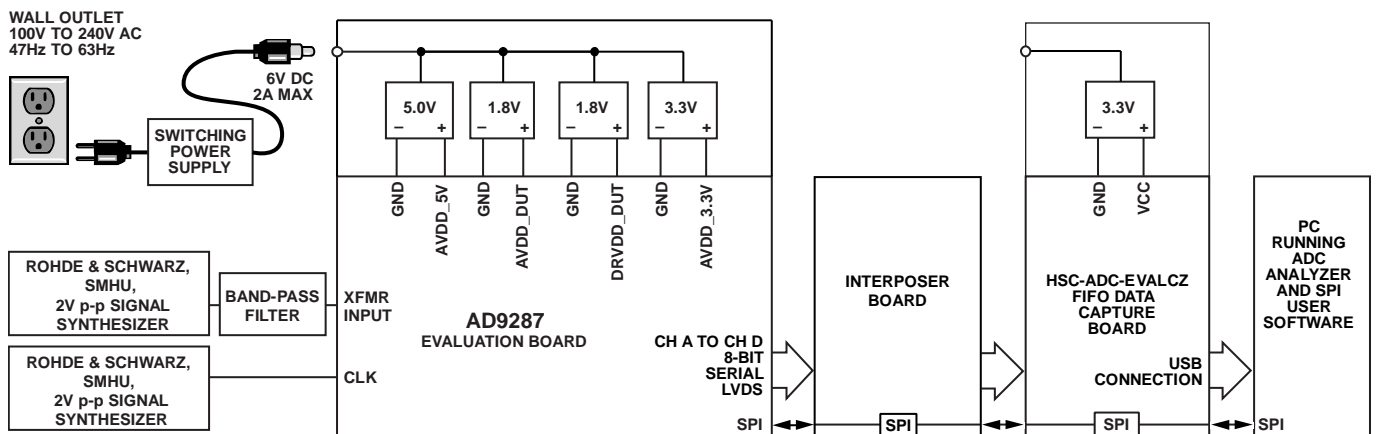
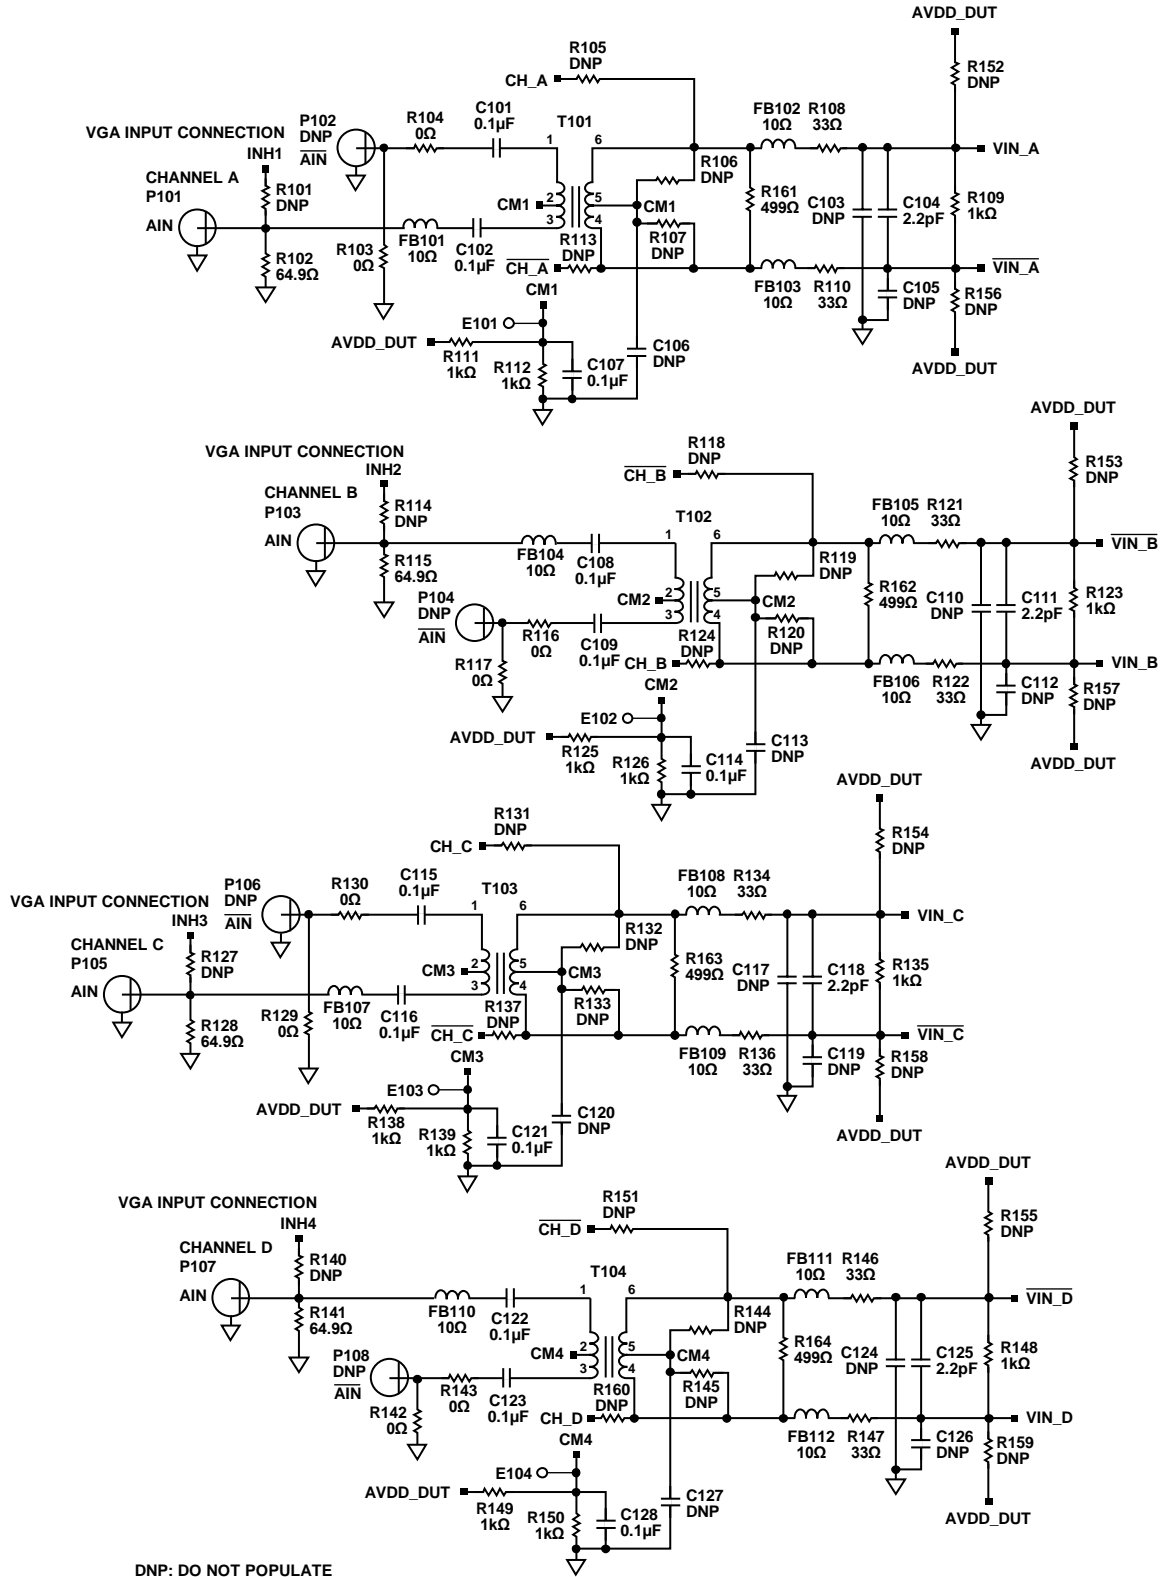
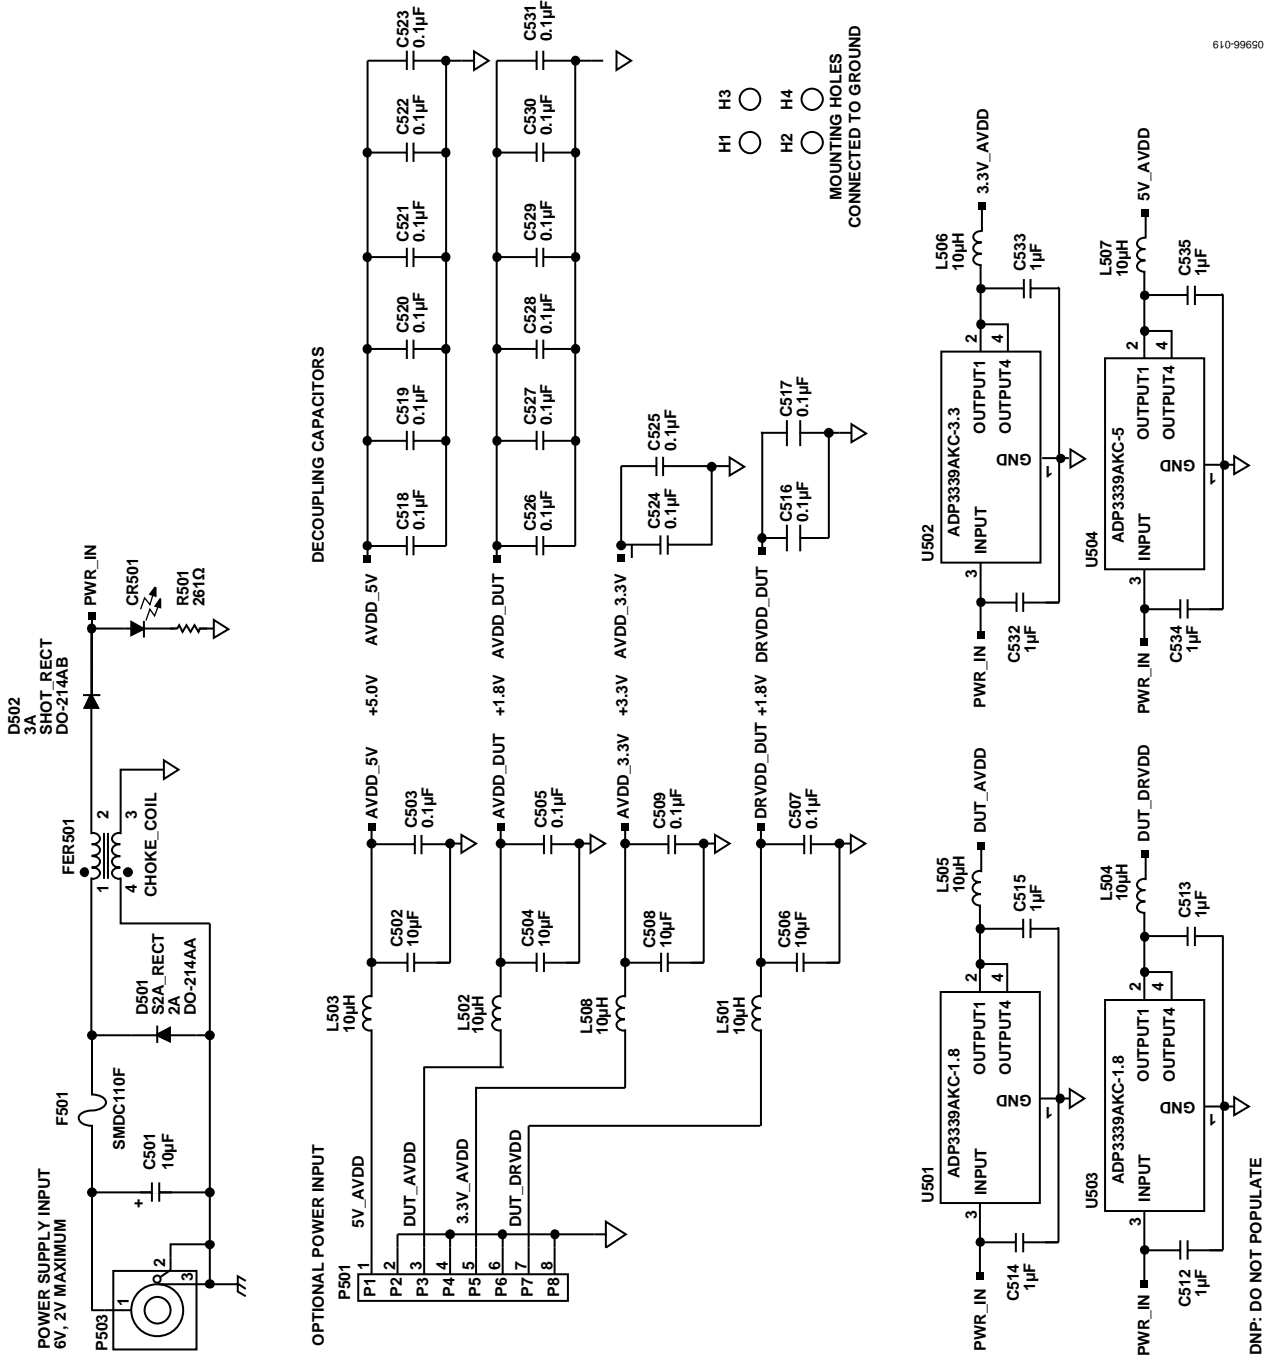
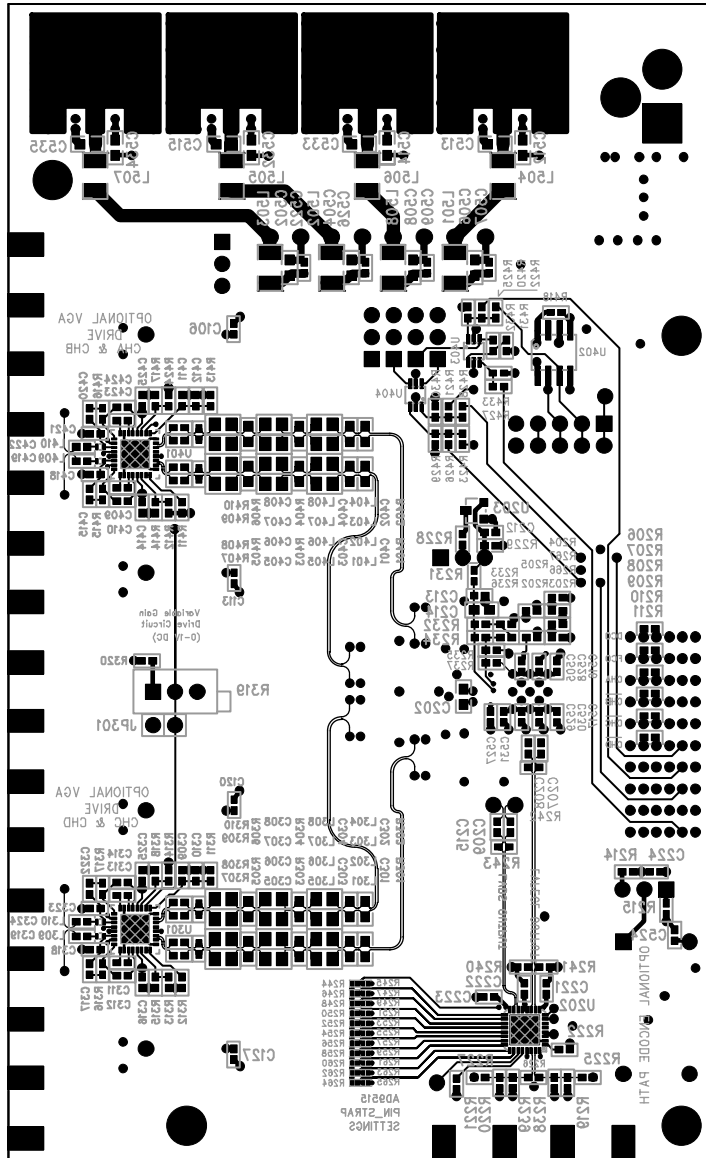

Figure 60. Evaluation Board Connection
Figure 62. Evaluation Board Schematic, DUT Analog Inputs
Figure 66. Evaluation Board Schematic, Power Supply Inputs
Figure 70. Evaluation Board Layout, Secondary Side (Mirrored Image)
The AD9287 evaluation board provides all of the support circuitry required to operate the ADC in its various modes and configurations. The converter can be driven differentially using a transformer (default) or an AD8332 driver. The ADC can also be driven in a single-ended fashion. Separate power pins are provided to isolate the DUT from the drive circuitry of the AD8332. Each input configuration can be selected by changing the connection of various jumpers (see Figure 62 to Figure 66). Figure 60 shows the typical bench characterization setup used to evaluate the ac performance of the AD9287. It is critical that the signal sources used for the analog input and clock have very low phase noise (<1 ps rms jitter) to realize the optimum performance of the converter. Proper filtering of the analog input signal to remove harmonics and lower the integrated or broadband noise at the input is also necessary to achieve the specified noise performance.
See Figure 62 to Figure 70 for the complete schematics and layout diagrams demonstrating the routing and grounding techniques that should be applied at the system level.
- **D + x, D - x:** If an alternative data capture method to the setup shown in Figure 60 is used, optional receiver terminations, R206 to R211, can be installed next to the high speed back-plane connector.